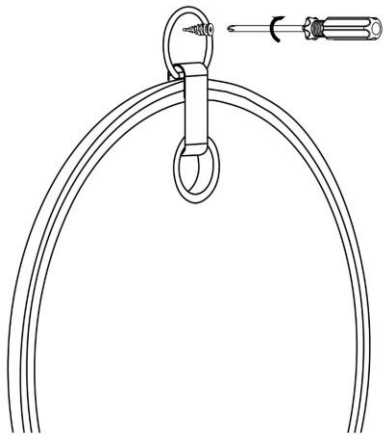

Fig.1
- 4) Hand the mirror's loop up and mark location of mounting knob (D). Refer to step#2 for installing the other anchor. Once installed, position the mounting knob over the anchor and secure using screw (B), tighten firmly. (Fig.1)